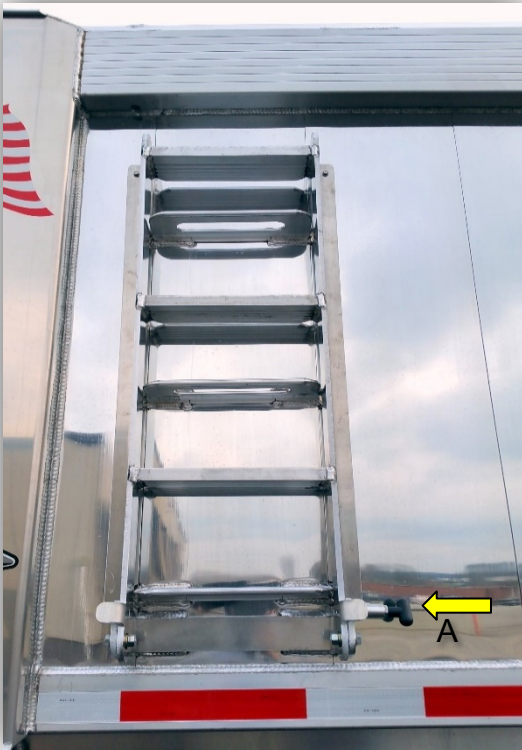

Figure 7-1-Fold Away Ladder on Trailer
An Optional fold-away side ladder. To open the ladder, remove pin (A) and pull ladder outward and Down. See figure 7-1. Install pin (A) through tube and brackets on ladder. Return ladder to storage position before moving trailer.